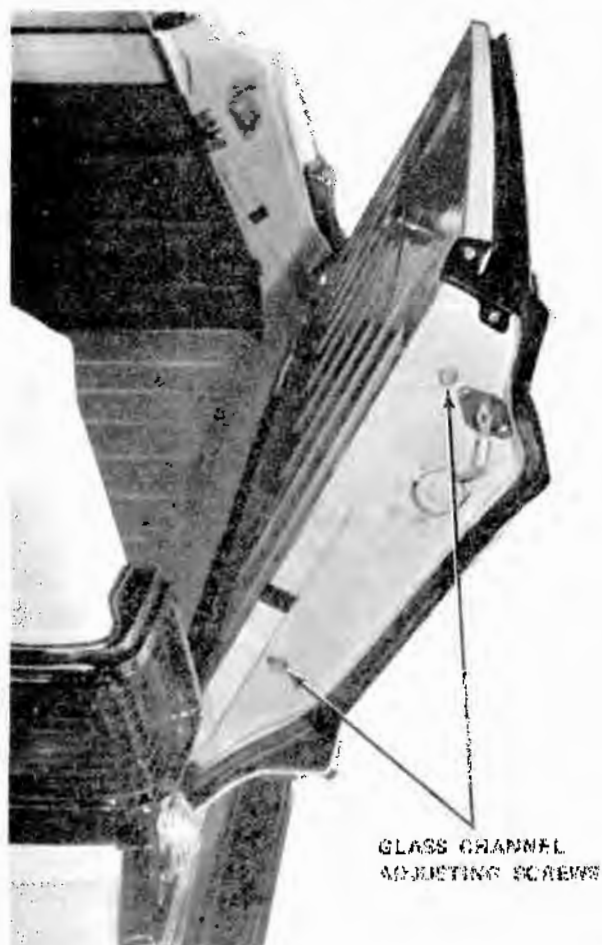

Fig. 16-2 Glass Channel Adjustment
- (1) If adjustment is necessary, loosen the two cap-screws on either side panel of the tailgate (fig. 16-2).
- (2) Raise and lower the glass several times with the tailgate in the closed position. This will align the glass with the channel.
- (3) Open the tailgate slightly and tighten the adjusting screws with the tailgate in the vertical position.